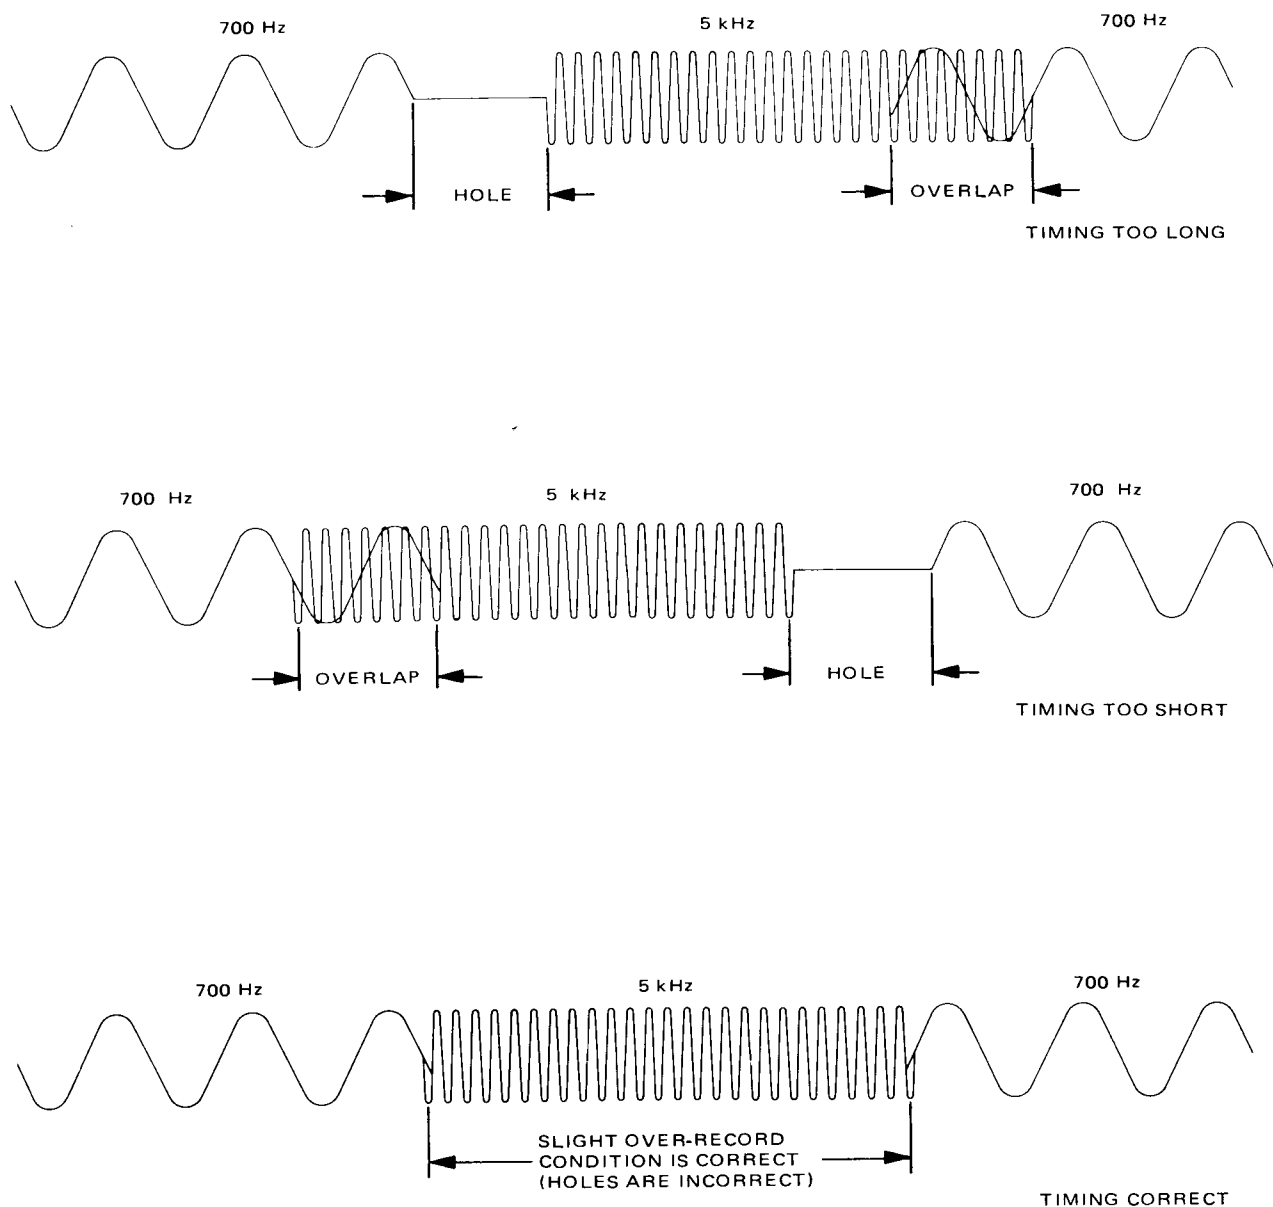

Figure 5-6. PURC Timing Adjustment Waveforms
11. While observing the 700-Hz playback signal on the scope, press the RECORD button and note whether a gap or an overlap appears on the scope. See Figure 5-6 for typical waveforms.